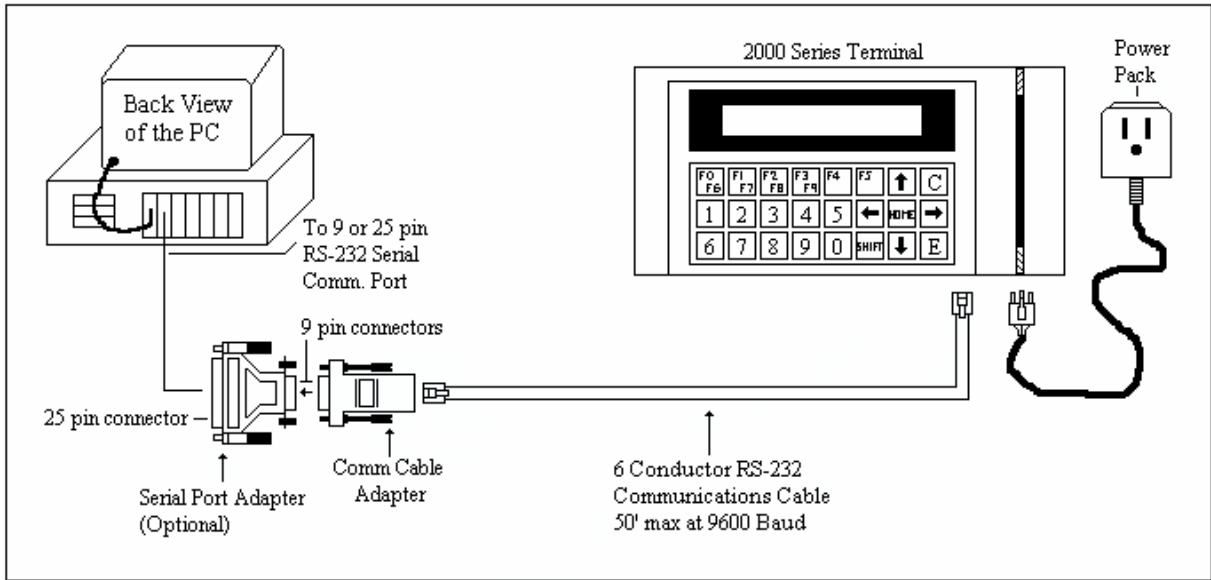

Figure 1
Figure 1 shows how all of the system components are connected. (Note: Figures are not to scale).
- As you install the system, refer to Figure 1 in addition to the other figures mentioned below.
If a 9 pin serial communication port on the PC is to be used, then connect the 9 pin end of the Comm Cable Adapter into the 9 pin serial port and secure it in place (Figure 1). If a 25 pin serial port is to be used, then connect a 25 to 9 pin serial port adapter (not supplied) into the 25 pin serial port on the PC and secure it in place (Figure 1). Plug the 9 pin end of the Comm Cable Adapter into the 9 pin end of the serial port adapter and secure it in place (Figure 1).
Plug the Terminal’s Power Pack into a 120 VAC outlet (Figure 1). The Terminal will run a series of self-tests and prompt “Setup Mode?” on the top line of the display. The bottom line of the display shows the Baud Rate, Parity, Host Delay, Terminal Address, Protocol Option, and the type of Reader (Figure 10).